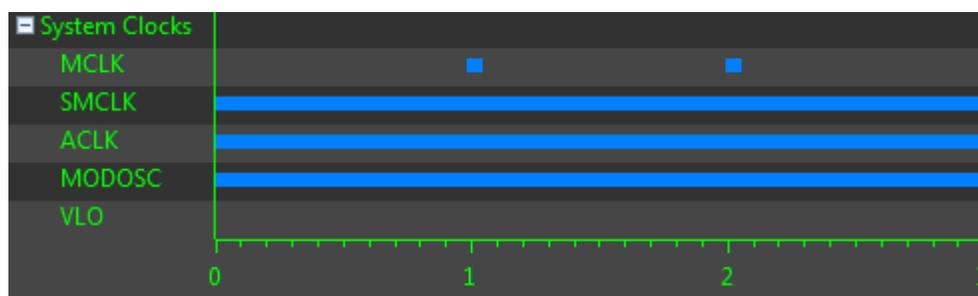

Figure 20. Efficient.c States
2. In the *States* tab, scroll down to the system clocks. Notice that the MODOSC is running throughout the entire code (see Figure 20), yet it is never used. Therefore, this clock should be turned off in the next revision of the code.